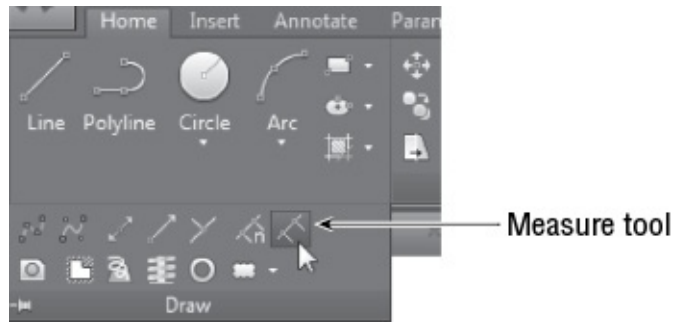

FIGURE 6.35 The Measure tool on the expanded Draw panel
- Select Measure from the expanded Draw panel, or type **ME** ↵ (see Figure 6.35).